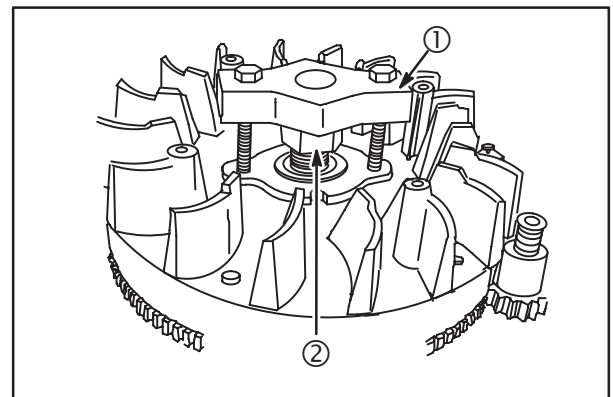

Fig. 16
1. Reinstall flywheel nut (2). Turn nut down flush with top of threads, **Fig. 16**.
2. Install Flywheel Puller #19203 (1).